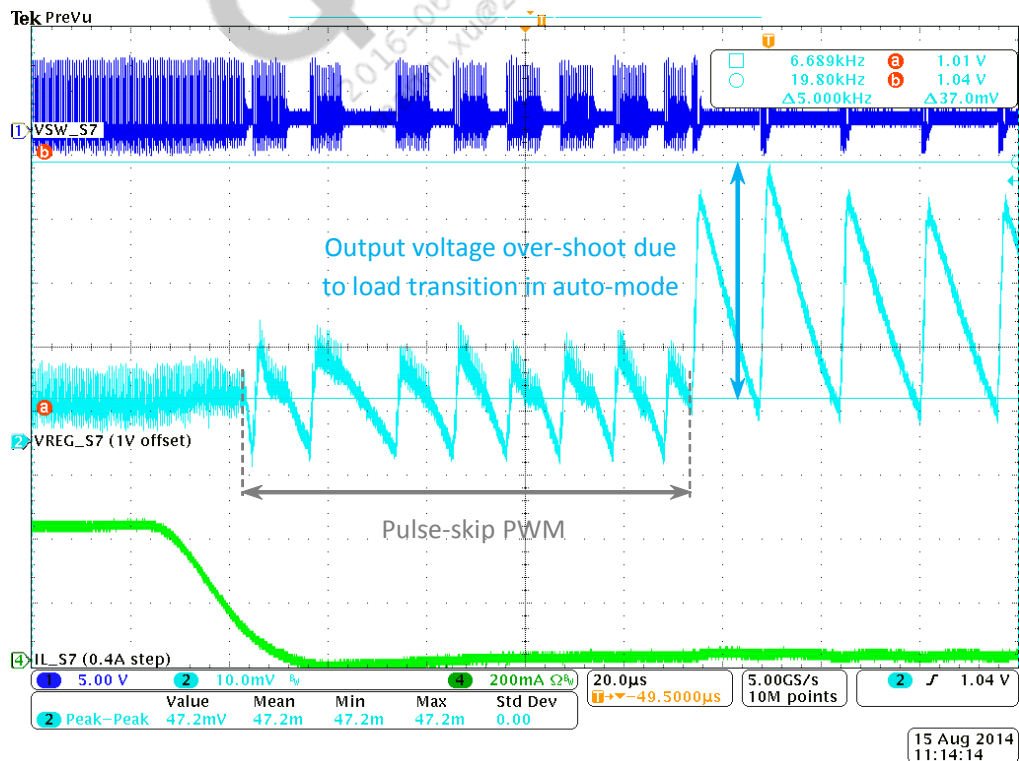

Figure 16 HF-SMPS load transient over-shoot measurement
- **Figure 16** – load transient over-shoot measurement of HF-SMPS in auto-mode